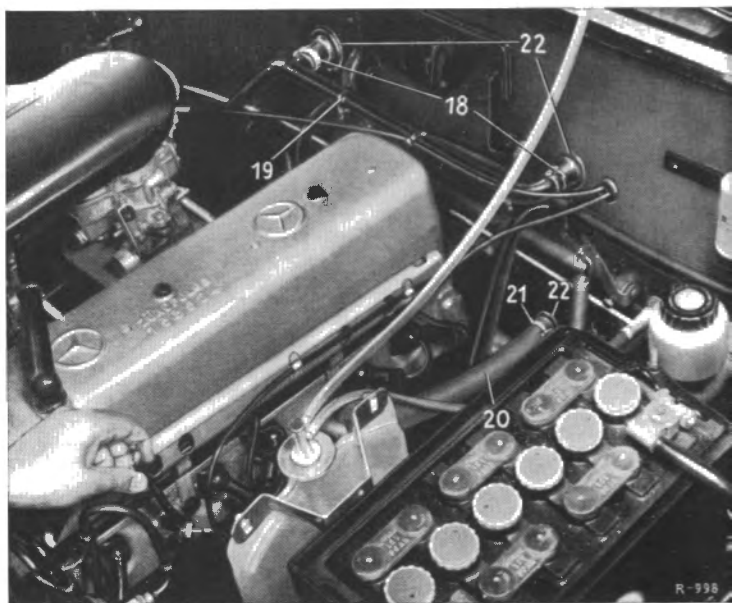

Fig. 83-1/3
9. Detach the water hose (20) from the feed pipe (21) (see Fig. 83-1/3).
10. Remove the rubber grommets (22) from the cowl (see Fig. 83-1/3).